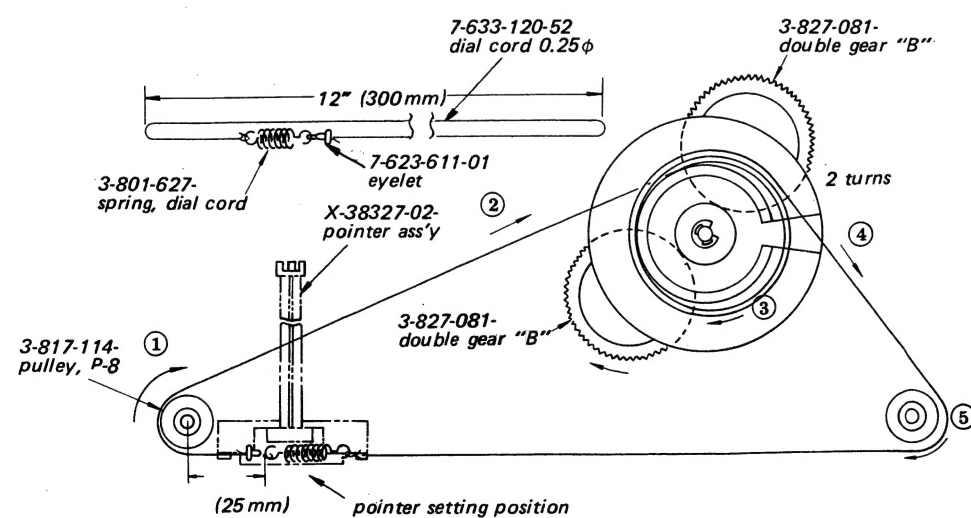

Fig. 2-23. Pointer driving cord stringing
1. Cut a dial cord as shown in Fig. 2-23.
3. String the pointer driving cord in numerical order, setting the spring to the position shown in Fig. 2-23.